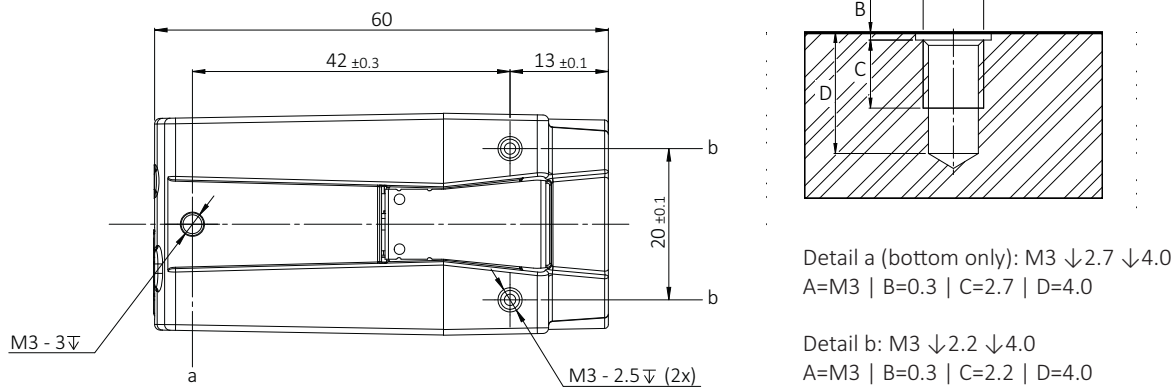

Figure 36: Mounting threads bottom (a and b) and top (b)
1. As shown in Figure 36, mount the camera to the base using suitable M3 screws
- a. Mounting thread a (bottom only): At 0.62 Nm maximum torque for a thread engagement (C) of 2.7 mm between screws and mounting threads.
- b. Mounting thread b: At 0.51 Nm maximum torque for a thread engagement (C) of 2.2 mm between screws and mounting threads.